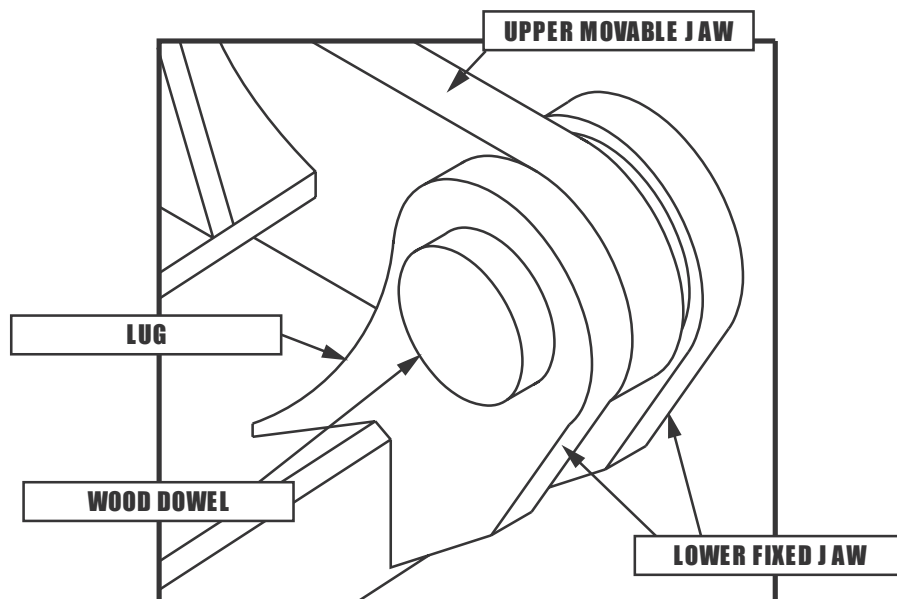

FIGURE 3-1
1. The grapple halves are held together by shipping sleeves. These sleeves are large wood dowels and must be removed one at a time to install the metal sleeve assemblies. Refer to Figure 3-1
2. Using a drift and sledge hammer, drive out the shipping sleeve (wood dowel) on the side opposite the locking bolt retainer. Refer to figure 3-1.